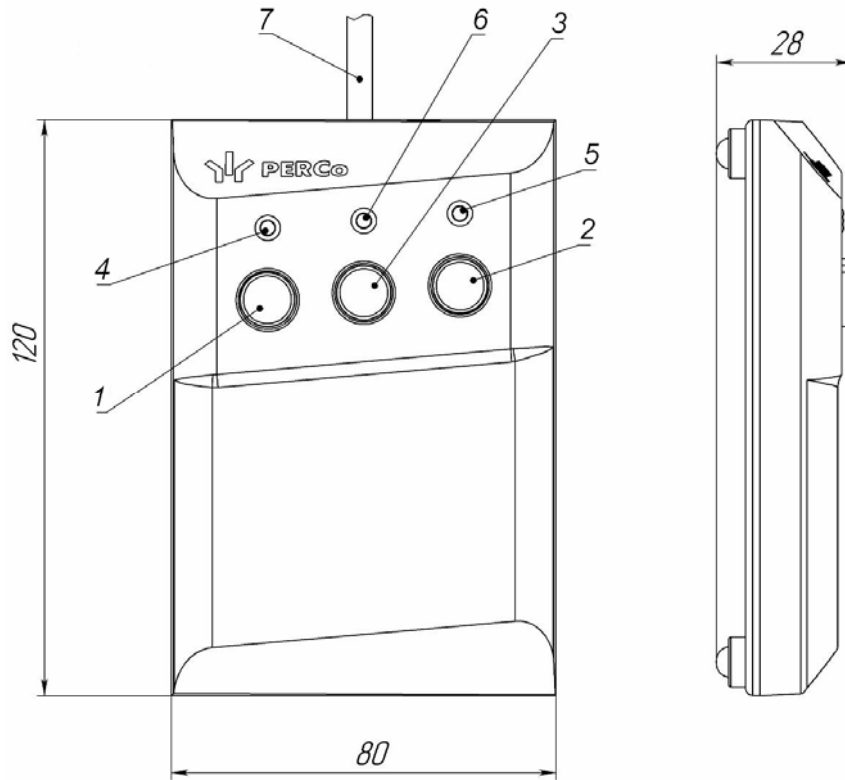
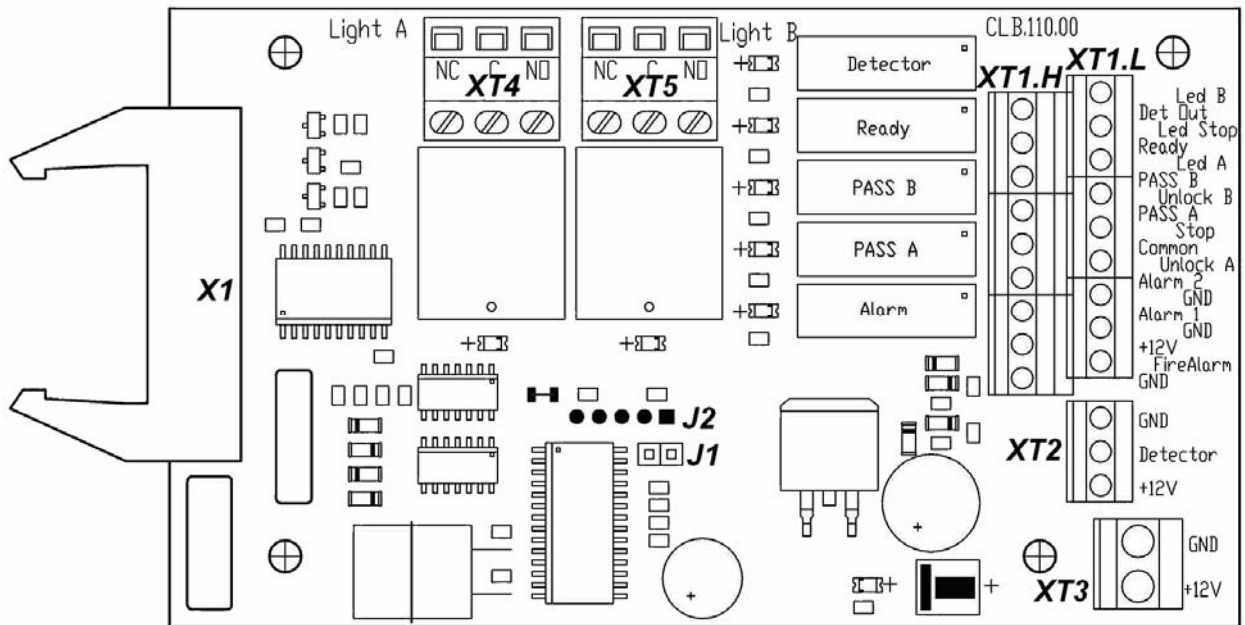

Fig. 4. RC-panel overall view
Fig. 5. The CLB
5.2.3 Inside the turnstile housing there is a bracket with a CLB mounted on it with terminal clamps for connection of external devices. RC-panel, ACS outputs, WRC device (when used), intrusion detector (optional) and emergency unblocking device are connected to the CLB. Connection lines of a power supply unit, signal lines of card readers and card capture reader are connected to the terminal clamps for connection of external devices. External devices are connected in accordance with connection layout (Ref. Fig. 11). The CLB is shown in Fig. 5.
5.2.4 The RC-panel is designed as a small desktop device with a shock-proof ABS plastic case and is intended for setting and indicating operating modes when the turnstile is operated manually. The RC-panel is connected to the CLB with a flexible multicore cable (17) via a **XT1.L** connector block (Ref. Fig. 5). The RC-panel overall view is shown in Fig. 4.
The front of the RC-panel houses three control buttons with LED indicators above to set passage modes of the turnstile. The “STOP” button in the middle serves for setting the “Always locked” operating mode, the right and left buttons – for unlocking the turnstile in a chosen direction. The RC-panel orientation towards the turnstile (if an operator’s terminal is placed at the backside of the turnstile housing) can be changed by swapping wires of the RC-panel connected to the contacts: *Unlock A* and *Unlock B* respectively, as well as Led A and Led B respectively (Ref. Fig. 5 and Fig. 11).
5.2.5 The CLB (Ref. Fig. 5) houses:
5.3.7 Pin assignment of the CLB connector blocks are given in Fig. 5 and on a label located on the inner surface of the turnstile top cover.
and “Alarm” relays is indicated by lighting/going out of red indicators located near the corresponding relays (Fig. 5).
5.5.2 The control mode is set by the jumper on a **J1** connector (the **J1** connector location is shown in Fig 5: the jumper is installed – the pulse control mode, the jumper is not installed – the potential control mode). The jumper is installed at delivery.
5.9.2 The intrusion detector is connected to the **XT2** connector block, and the siren is connected to the **XT1.H** connector block of the CLB according to the connection layout (Fig. 11 and Fig. 5). The intrusion detector should have normally closed contacts.
A signal on current status of the intrusion detector is constantly transmitted to the *Det Out* and *Common* contacts of the CLB **XT1.H** connector block (Fig. 5).
5.9. The emergency unblocking device is connected to the **XT1.L** connector block of the CLB in accordance with the connection layout (Fig.11 and Fig. 5). If the *Fire Alarm* input is not used, it is necessary to install a jumper between the contacts *Fire Alarm* and *GND*. This jumper is installed at delivery.